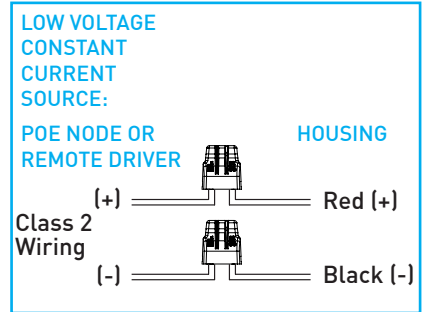

Fig.19
Feed structured building wires through knockout, secure to corresponding connector "Fig.19" and tighten strain relief.
**Quick connectors** provided for low voltage connection: Red (+) and Black (-) "Fig.19".